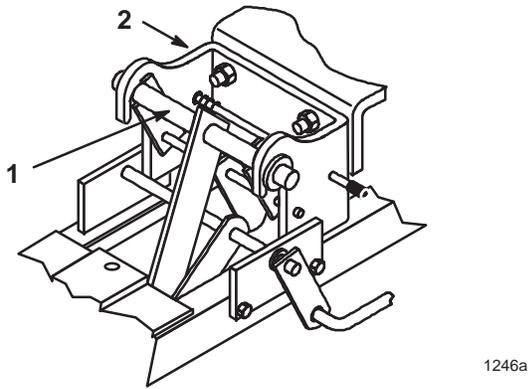

Figure 11
7. Slide front lift arm of blade into tractor front hitch. Close and lock front hitch (Fig. 11).